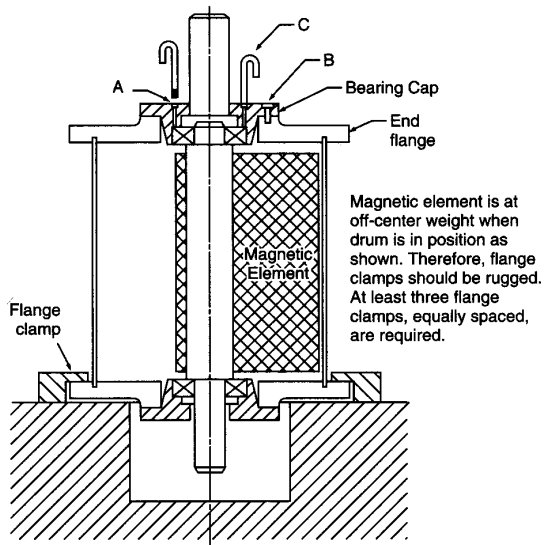

FIGURE 4
1. Set drum up in support as shown in Figure 4. The end with worn bearing is up.